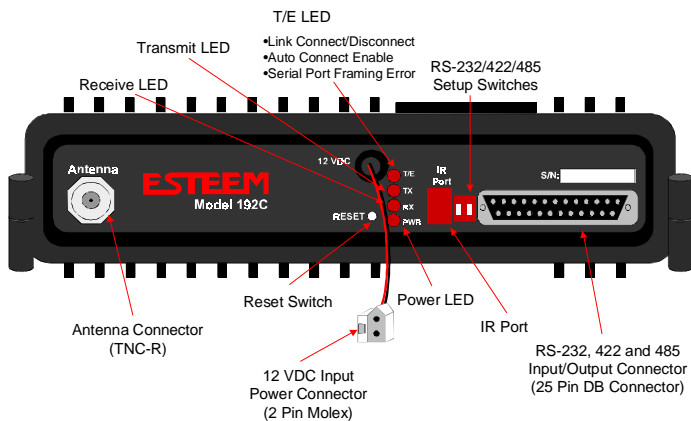

Figure 7: ESTeem Front Panel
- Press the Front Panel Description button and a window containing the ESTeem Model 192 front panel will appear (Figure 7). Press any one of the buttons for a complete description of the item's function. For example, press the Power LED button and the description of the power LED and its use will be displayed. Press Go To Step 3 button to proceed.